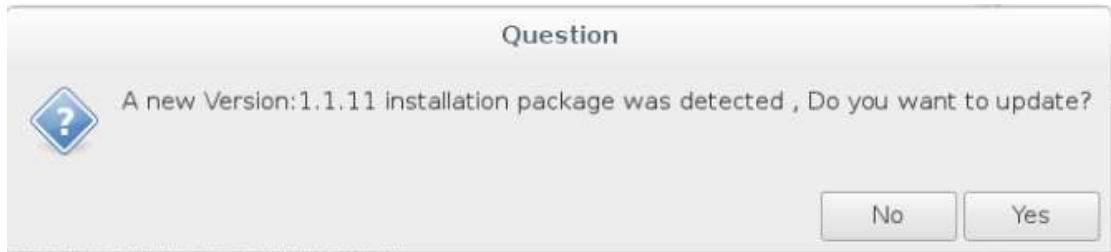

Figure 6-7
Step 2 The system displays the software update prompt, as shown in Figure 6-7.